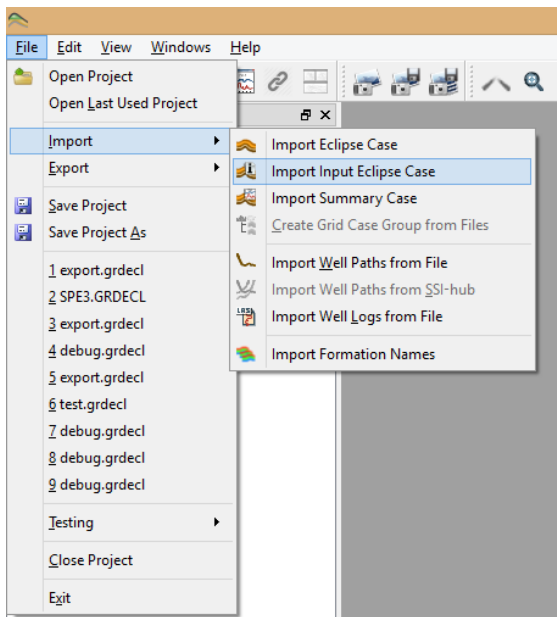

Figure 3.36 Import GREDCL file into ResInsight
1. Open ResInsight, and select 'File' > 'Import' > 'Import Input Eclipse Case' (Figure 3.36).